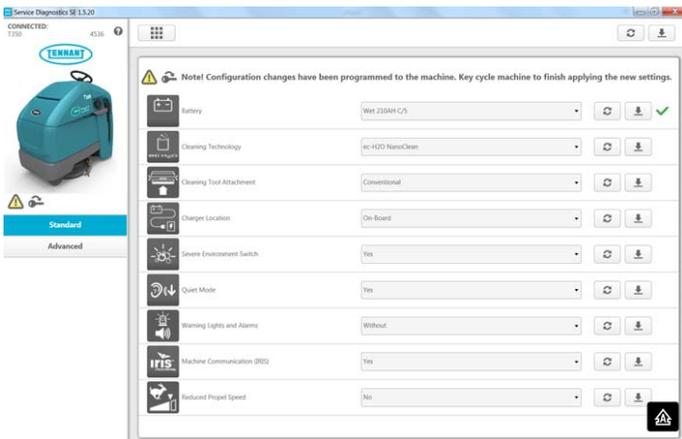

Fig. 11
12. Check and correct the installed options (Figure 11). Then press the down arrow button to reprogram the machine. A green check will appear next to the down arrow button when programmed.